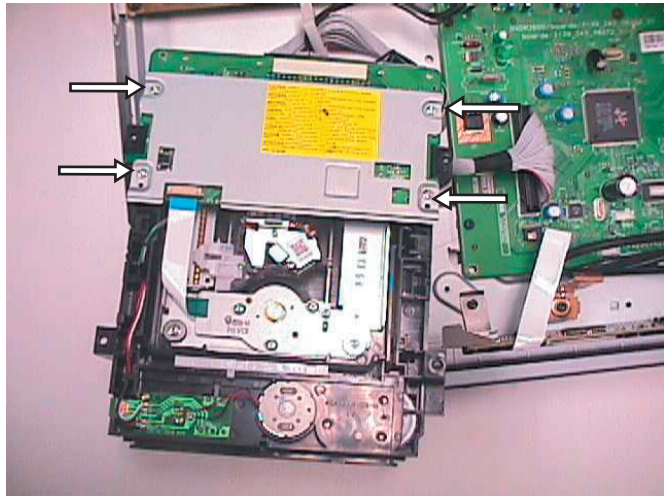

Figure 7. Basic engine service position
- 2) Flip over the Basic Engine 1001 to remove 4 screws from the PCB protection plate. Service Position of the Basic Engine is shown in Figure 7..